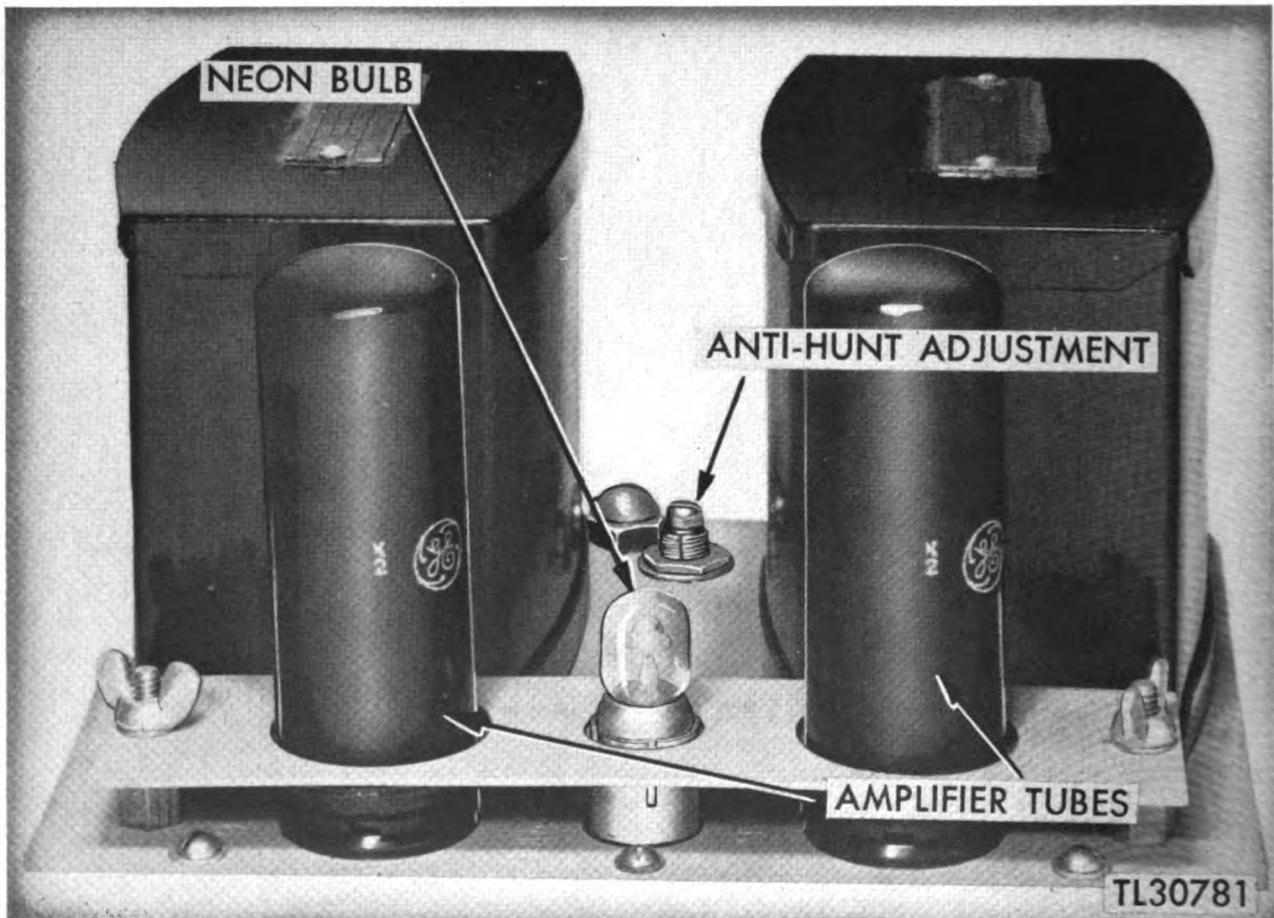

Figure 63. Amplidyne amplifier.
**NORMAL CONDITION.** The condition of the amplidyne amplifier (fig. 63) is normal if: